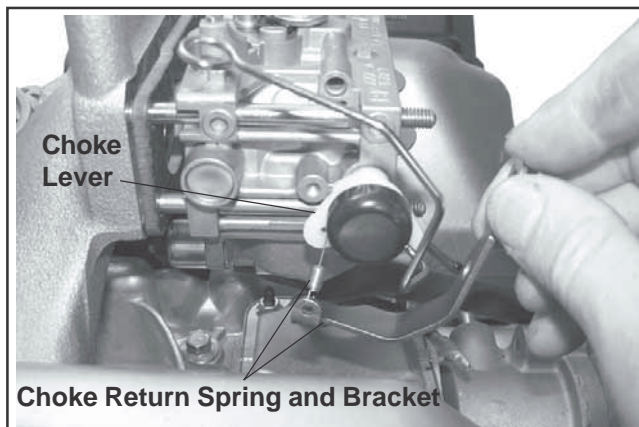

Figure 10-91. Choke Return Spring and Bracket Details.
2. Attach the choke return spring and bracket to the front hole in the choke lever on carburetor. See Figure 10-91.